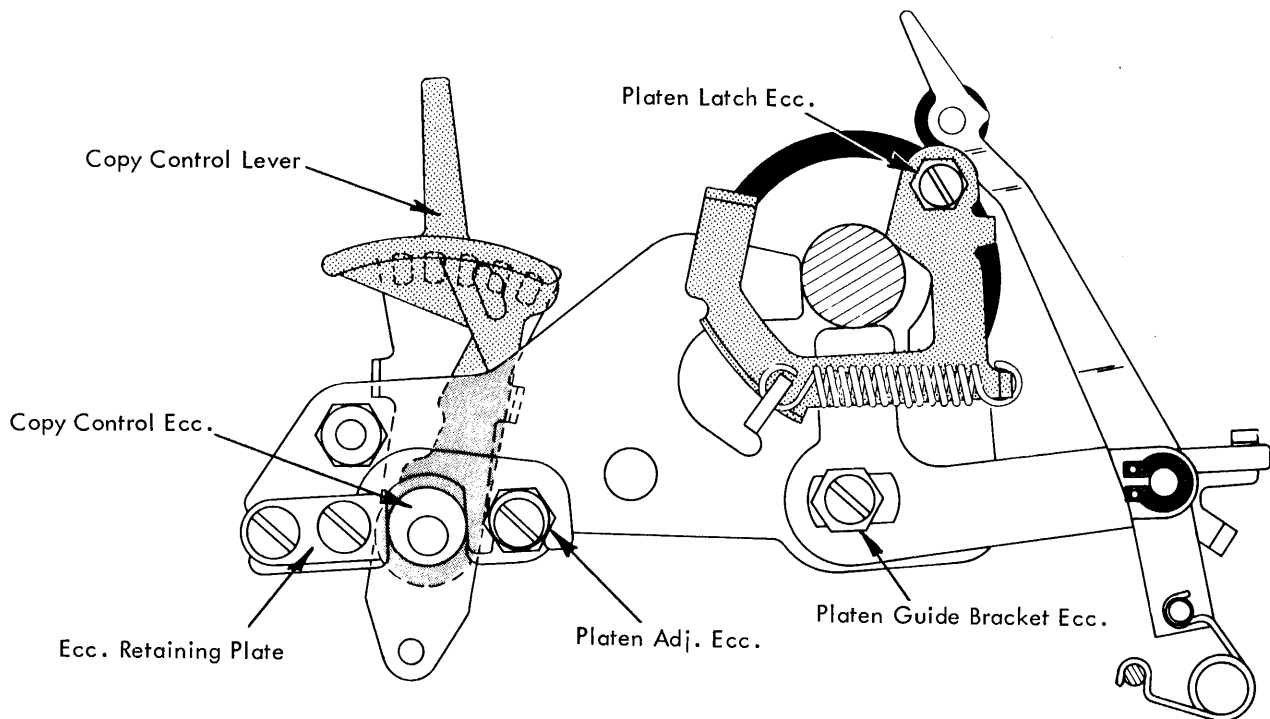
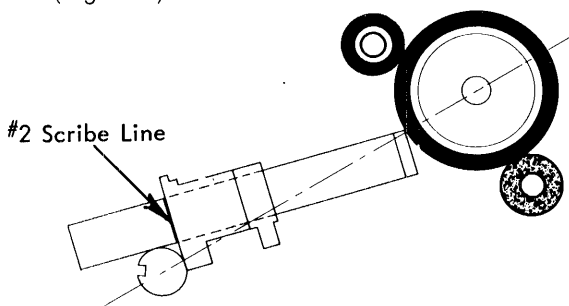

FIGURE 133. Copy Control Mechanism
FIGURE 135. Front to Rear Platen Adjustment
1. Copy Control Lever - With the copy control lever detented in the forward position, the high points of the eccentrics should be vertical (Fig. 133). Adjust the copy control lever on the shaft to satisfy this condition.
2. Eccentric Retaining Plates - For maximum efficiency of the copy control eccentrics, adjust the plate on each side of the machine so that no front to rear play exists between the eccentrics and the retaining plates (Fig. 133). Be sure that no binds exist.
3. Platen Latches - Adjust the platen latch eccentrics (Fig. 133) with the high part down so that the platen is held firmly in position vertically and horizontally. The latches should latch and unlatch freely with the feed rolls released.
Adjust the platen guide bracket eccentrics to obtain this condition (Fig. 133). The high part of the eccentrics should be kept to the rear. It is necessary to remove the deflector and front feed rolls when checking the adjustment with the Hoovermeter.
- b. Platen Front to Rear - With the head of the Hooverometer set at the #2 scribe line, the tool should just span the distance between the platen and the print shaft as illustrated in Fig. 135. Adjust the platen adjusting eccentrics to obtain this condition (Fig. 133).